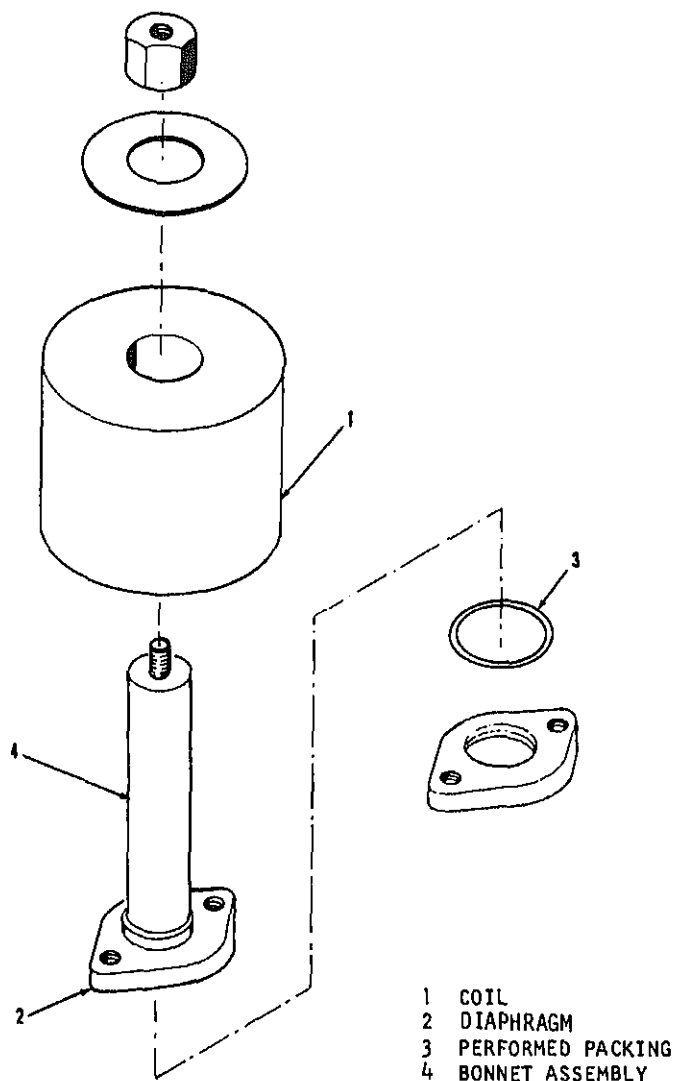

Figure 6-3. Solenoid valve, exploded view
a. General. Replaceable parts are the coil bonnet assembly, diaphragm and the preformed packing. See figure 6-3.
(1) Remove electrical connector from solenoid valve leads.
(2) Remove nut on top of valve housing. Lifting housing and coil assembly from bonnet assembly.
(3) Remove coil from housing.
(4) Install coil bottom plate edge upward.
(5) Install lower coil sleeve flange at bottom. Install coil w lead exits at bottom.
(6) Install coil spring with edges upward and upper coil sleeve